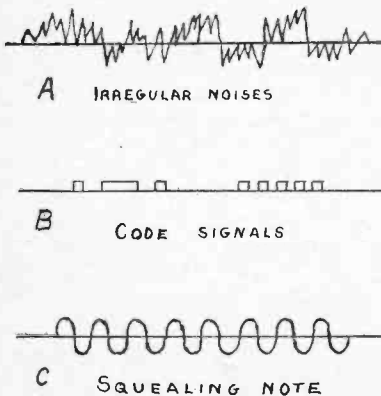

Fig. 1. Three Kinds of Trouble
BROADCAST listeners to-day face three kinds of interference; (1) from code stations, (2) static, and (3) so-called "Birdies," or the whistling and squealing of certain types of receivers, particularly the single circuit sets. See Figure 1. There have been various methods suggested and discussed of eliminating these evils and conditions are far better now than they were a year ago. Some people have suggested that all code stations be shut down. Of course that is impossible. Many listeners who object to this form of interference do not realize what code stations are doing.